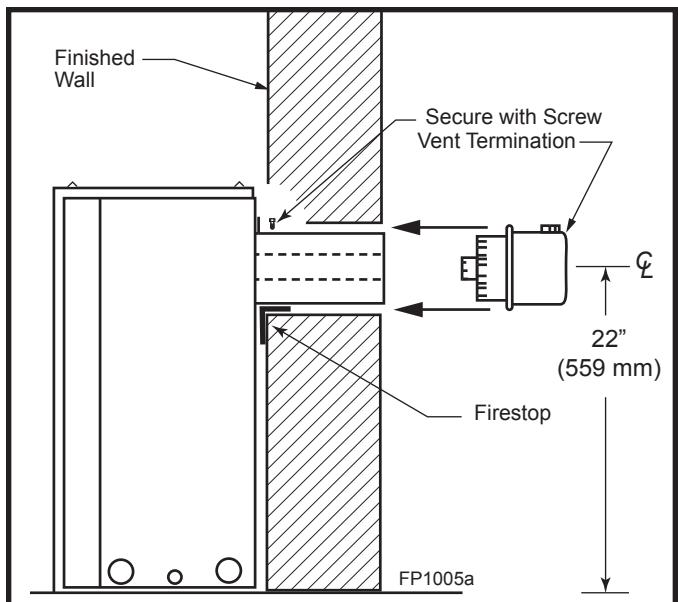

Fig. 19 Side view of final unit location.
Twist the termination collar so it locks onto fireplace collars. Run screw through tab to keep collar from turning. (Fig. 19)
- Once the collar is twisted onto the fireplace collar, secure with a screw through the tab. (Fig. 19)